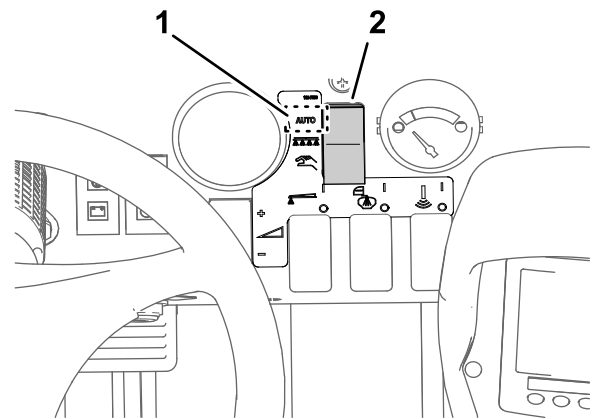

Figure 40
3. Set the sprayer mode button to the Application Rate Mode (Figure 40).